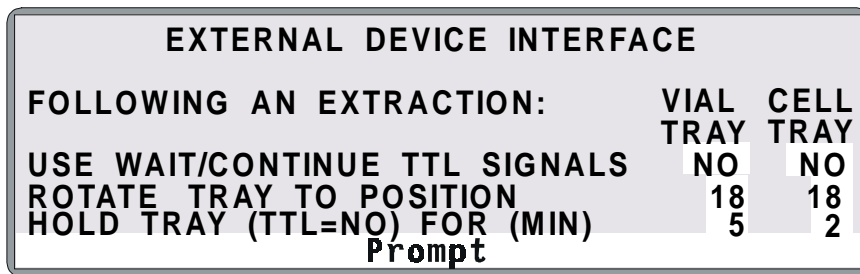

Figure 3-5. External Device Interface Screen:
1. To specify the operating conditions for the fixed time mode, press **Menu** to display the **MENU OF SCREENS** and press **9** to display the **EXTERNAL DEVICE INTERFACE** screen (see Figure 3-5).